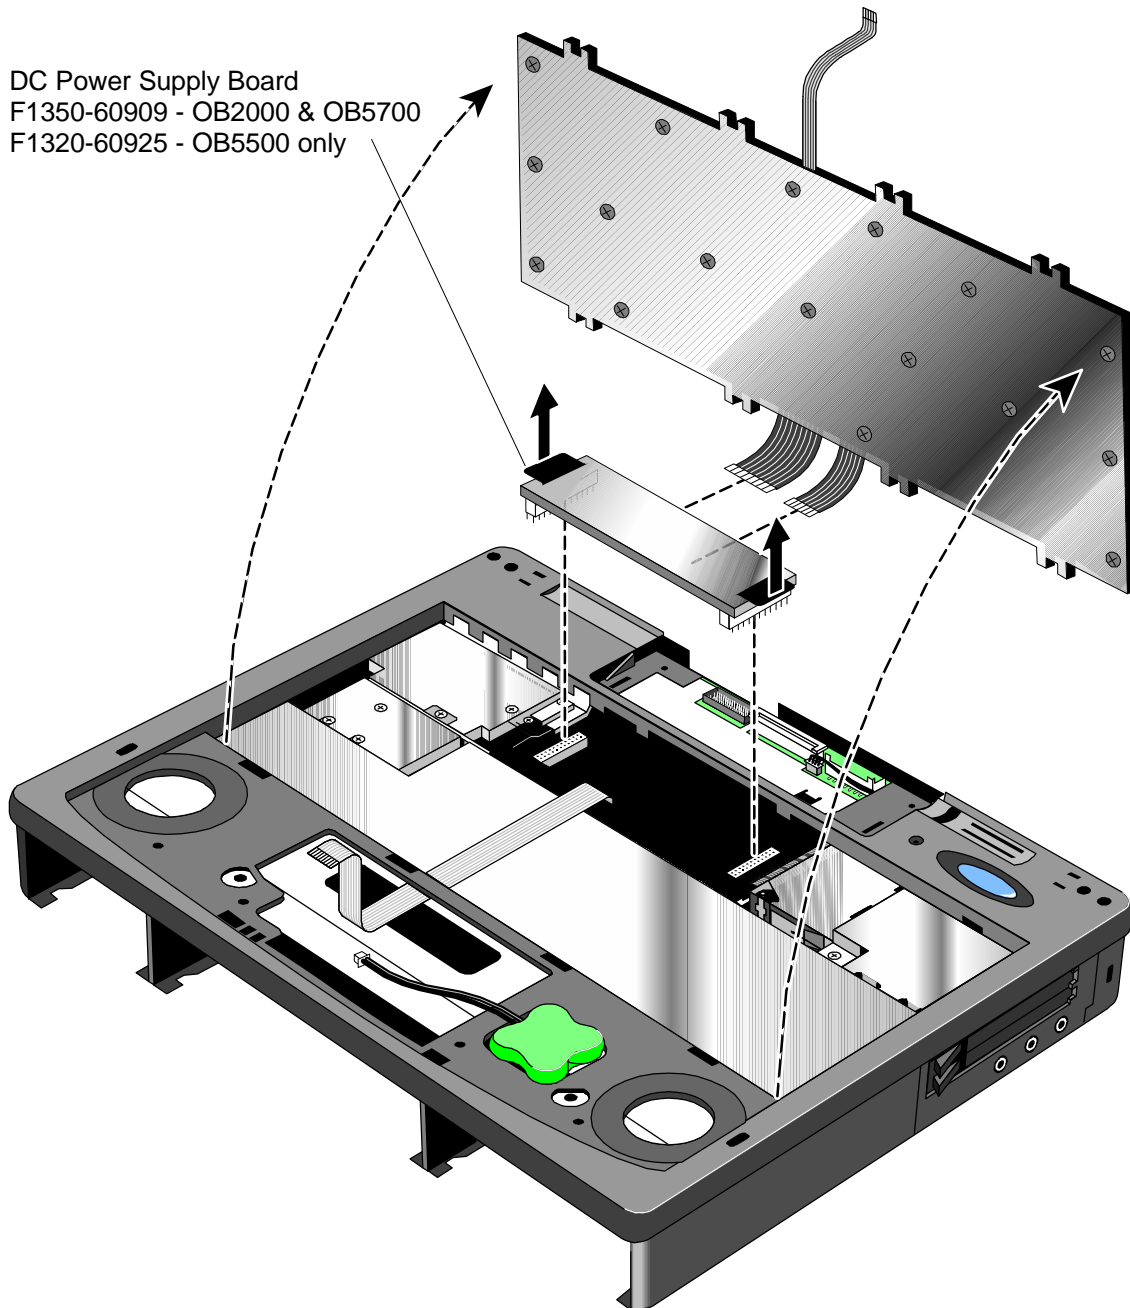

Figure 34 - Keyboard Removal
2. To remove the Keyboard further, the DC Power Supply Board must be removed. Pull up **evenly** on both tabs of the Power Board. See Figure 34.